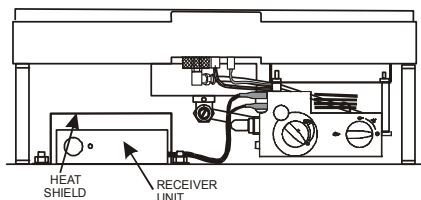

Figure 47
4. Position the receiver under the heat shield as shown in **Figure 47**.